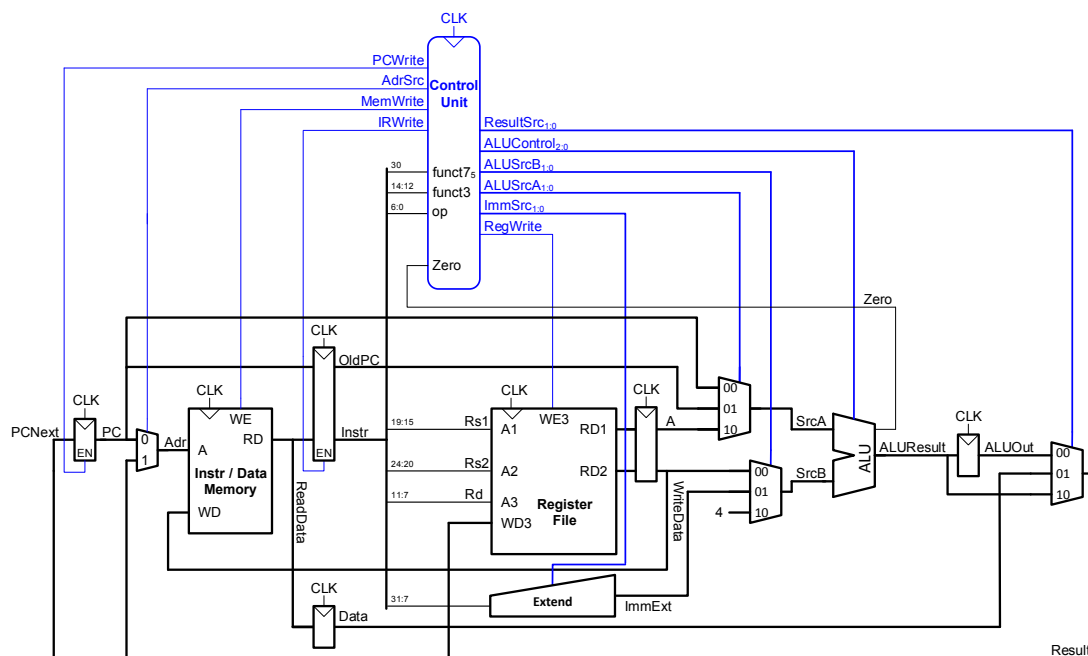
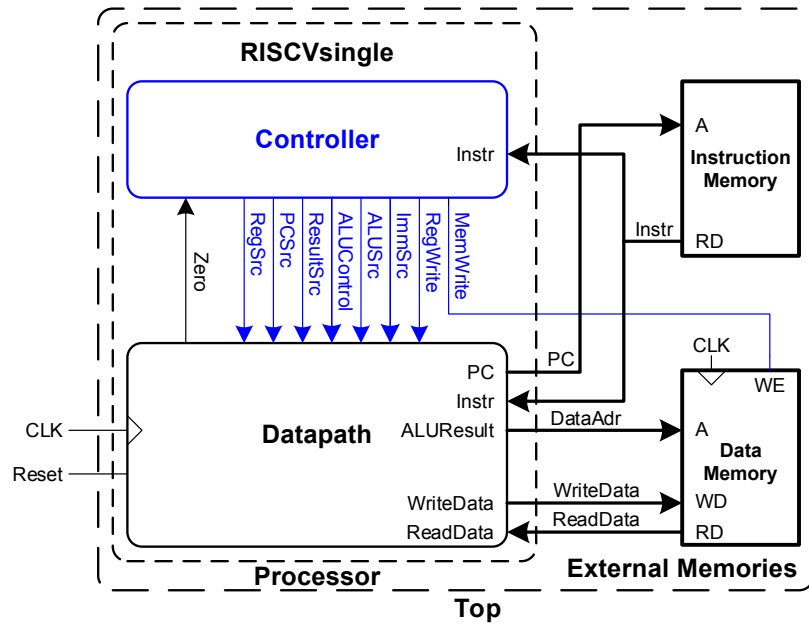

Figure 1: Complete multicycle processor
Figure 2: Single-cycle processor interfaced to external memories
Figure 1 (near the end of this lab) shows the complete multicycle processor. Figure 2 shows the high-level hierarchy of the single-cycle processor including the connections between the controller, datapath, instruction memory, and data memory. Your multi-cycle processor has only a single unified memory and has slightly different control signals, so you will need to modify these connections. Sketch a diagram similar to Figure 2 showing your controller, datapath, and memory modules. Draw a box for the `riscv` module that should encompass the controller and datapath. Label the signals passing between blocks.
- Copying the single-cycle processor top, riscv, or datapath interface with signals that don't match the multi-cycle processor. Be sure you have a clear idea what belongs in each module. You will likely save time if you sketch a picture similar to Figure 2 and identify what signals flow between the riscv and memory modules.